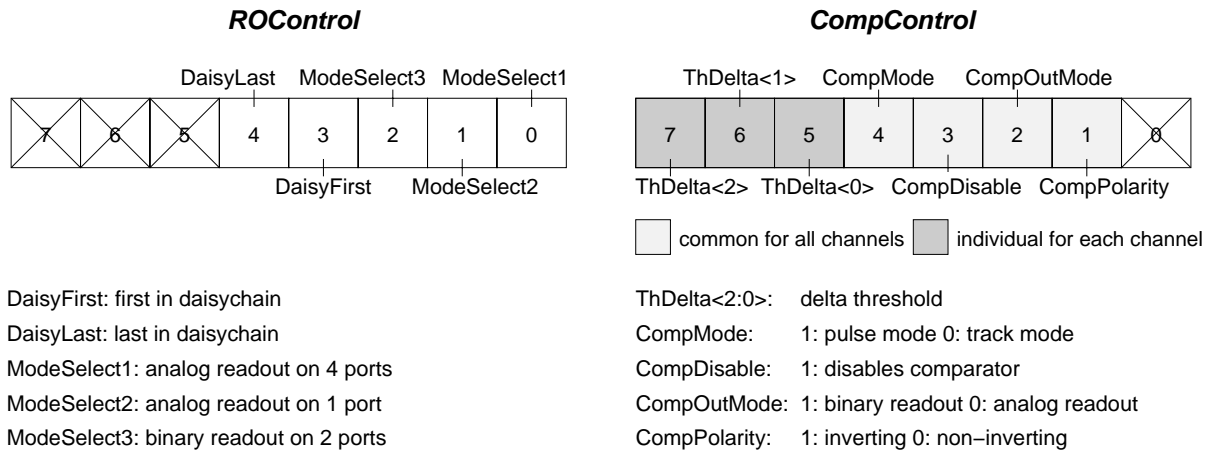

Figure 11: Bit assignment of the configuration registers *ROControl* and *CompControl*. All switches are active-high. 1 enables the switch, 0 disables it.
The comparator is configured via the register *CompControl* (see table 3 and fig. 11). *CompOutMode* defines the mode of operation of the comparator. *CompOutMode=0* selects the analog mode, in which the output of the frontend amplifier is transferred to the pipeline. In binary mode (*CompOutMode=1*) the comparator output is fed into the pipeline. *CompDisable=1* turns off the comparator's bias current. *CompPolarity* selects between an inverting (1) or non-inverting (0) comparator operation. *CompMode* switches between two different kinds of output signal. With *CompMode=0* the output is as long active as the comparator input signal is above the threshold level. With *CompMode=1* the output is only one CompClk cycle active, independent of the time, which the input signal is above the threshold.
The threshold level is generated from two programmable currents. *Ithmain* (register addresses 2 and 3) determines the global threshold, which is common to all channels. *Ithdelta* (register addresses 0 and 1) defines an additional delta voltage. The 3 MSBs of the configuration register *CompControl* ThDelta[2:0] (fig. 11) select the number of delta voltages which are being added to the global threshold voltage.
value and register content. A LSB corresponds to  $0.977 \mu\text{A}$  for currents and  $2.44 \text{ mV}$  for voltages. Registers 0-29 are bias registers for the analog stages. Register 30 defines the latency, register 32 the ratio between the readout clock  $R_{\text{clk}}$  and the sampling clock  $S_{\text{clk}}$ . Each LSB reduces the frequency of  $R_{\text{clk}}$  with respect to  $S_{\text{clk}}$  by a factor of 2. The register value is modulo 8, a 0 means, that  $S_{\text{clk}}$  and  $R_{\text{clk}}$  have the same frequency. The registers 31 and 37 select the chip's mode of operation (readout mode, daisychain configuration) and define the comparator configuration. Fig. 11 shows the detailed bit assignment of the registers *ROControl* and *CompControl*.